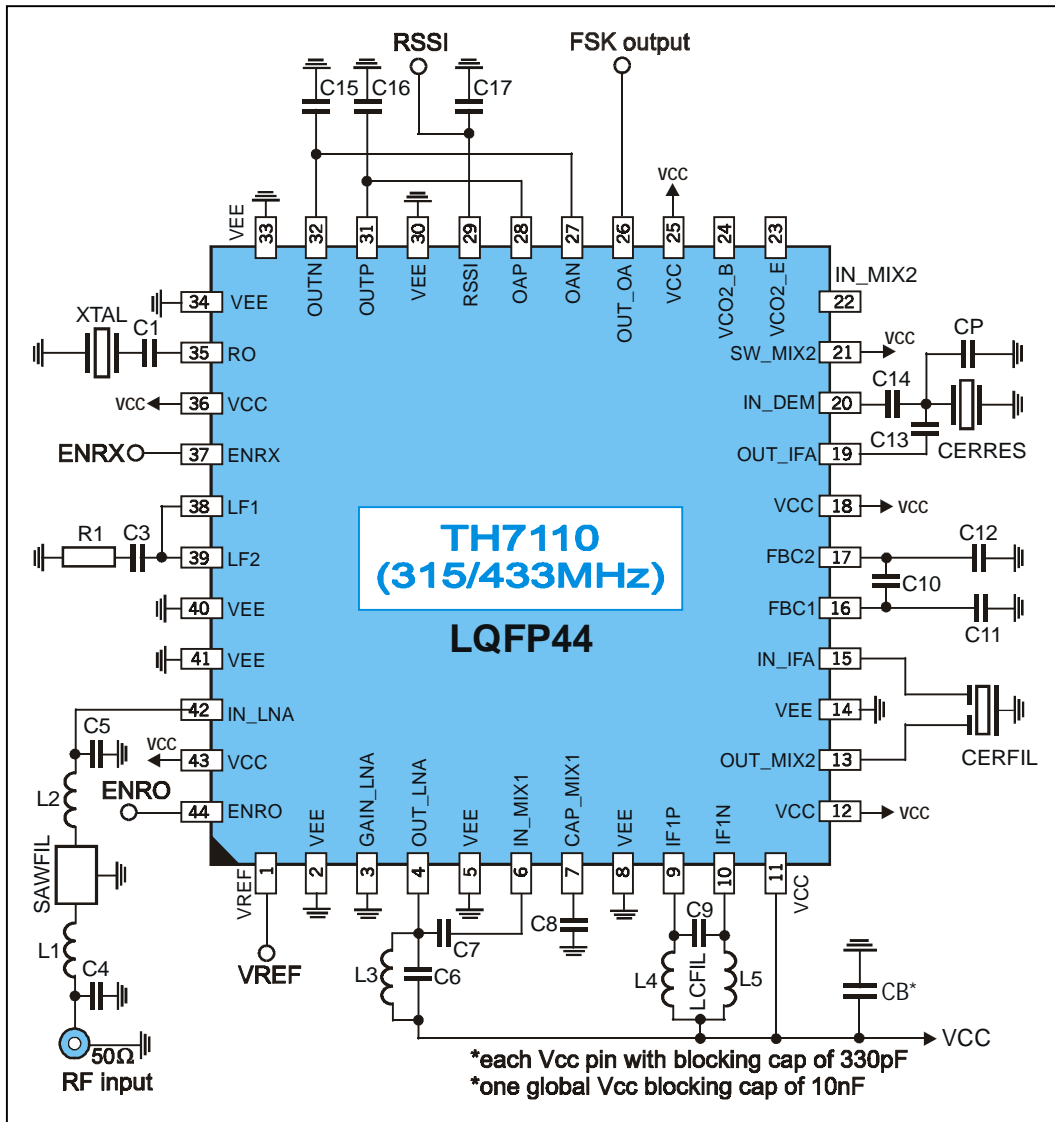

Fig. 2: Test circuit for FSK reception
all parameters based on test circuits for FSK (Fig. 2), FM (Fig. 4) and ASK (Fig. 5), respectively;
**FSK test circuit component list to Fig. 2**